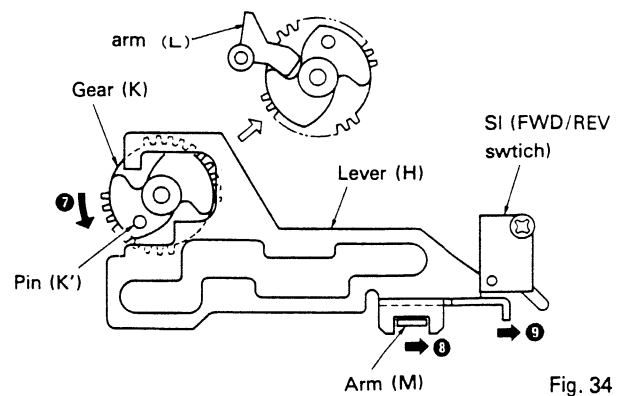

Fig. 34
5. Along with the action described under Paragraph 4, above, as gear (K) turns, pin (K') pushed against lever (H), which pushes arm (M) in the direction indicated by arrow ⑧ in Figure 34. In addition, the FWD/REV switch is moved from the "FWD" position to the "REV" position (arrow ⑨).